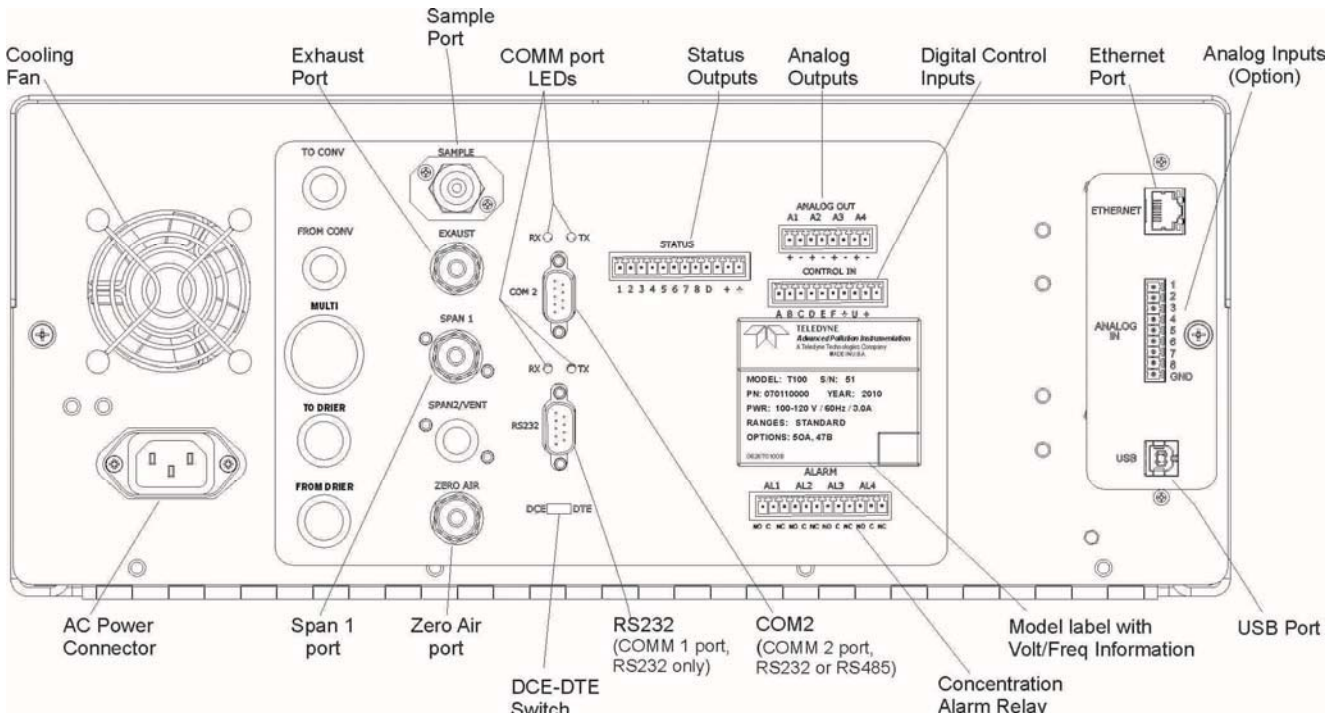

Figure 3-20: Rear Panel Layout with Z/S Valve Options (OPT 50A)
- SPAN GAS** Attach a gas line from the source of calibration gas (e.g. a Teledyne M700E Dynamic Dilution Calibrator) to the **SPAN1** inlet (see Figure 3-20). Use PTFE tubing; minimum O.D ¼”.